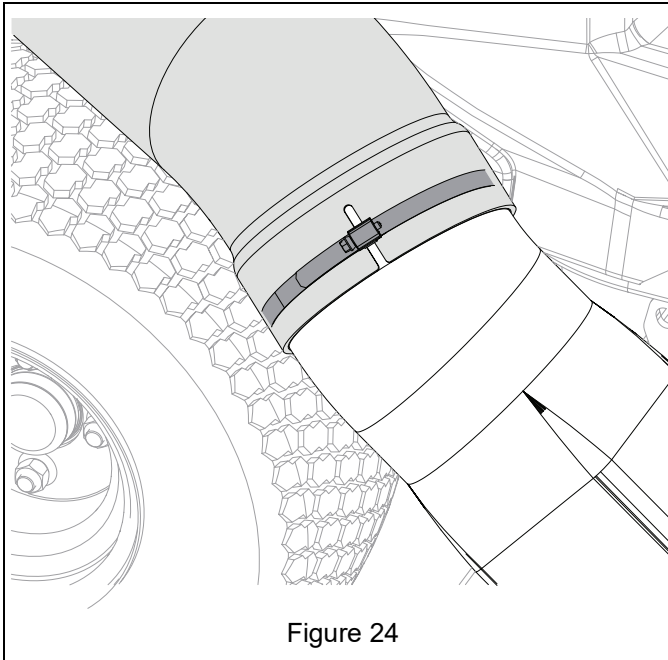

Figure 24
9. Attach blower adapter end to blower housing and secure by tightening hose clamp. See Figure 24.